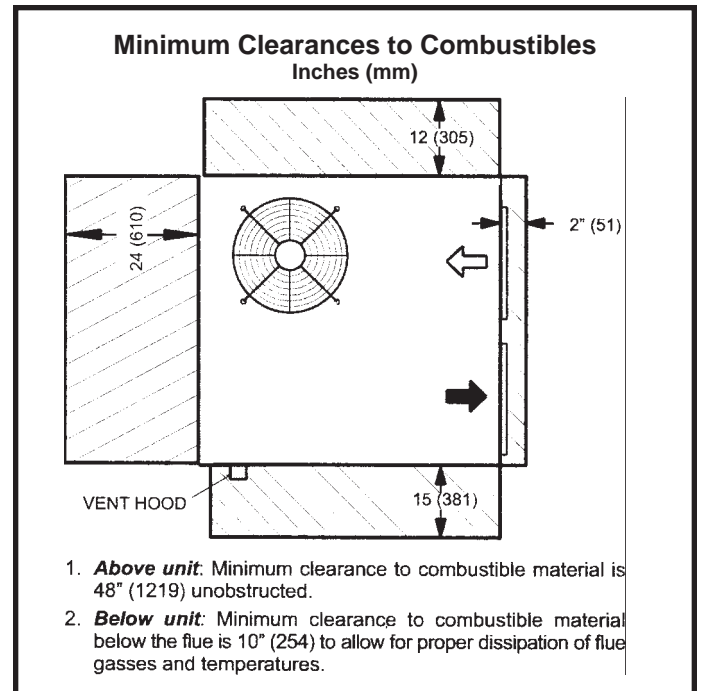

Figure 3
- Refer to Figure 3 for the clearances required for combustible construction.